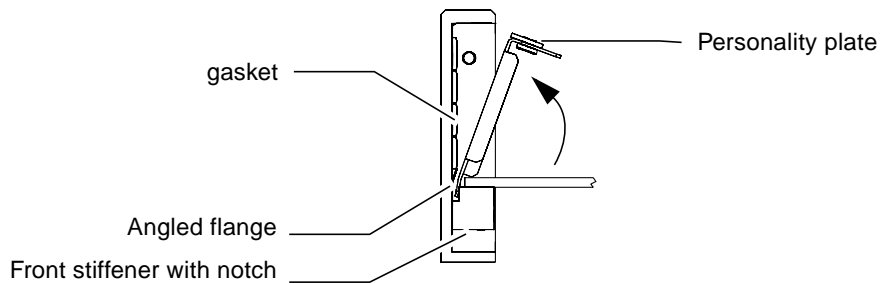

FIGURE 6 Personality Plate Installation (Top View)
2. **Install the personality plate by placing the angled flange into the notch of the front stiffener and swinging the personality plate into place against the gasket.** See FIGURE 6.